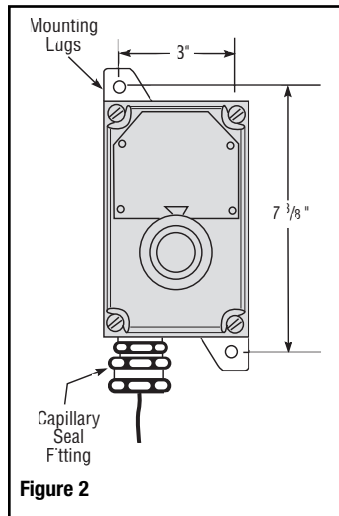

Figure 2
2. Use sheet metal or wood screws through the two $\frac{5}{16}$ " diameter mounting holes in mounting lugs to mount control (see Figure 2).